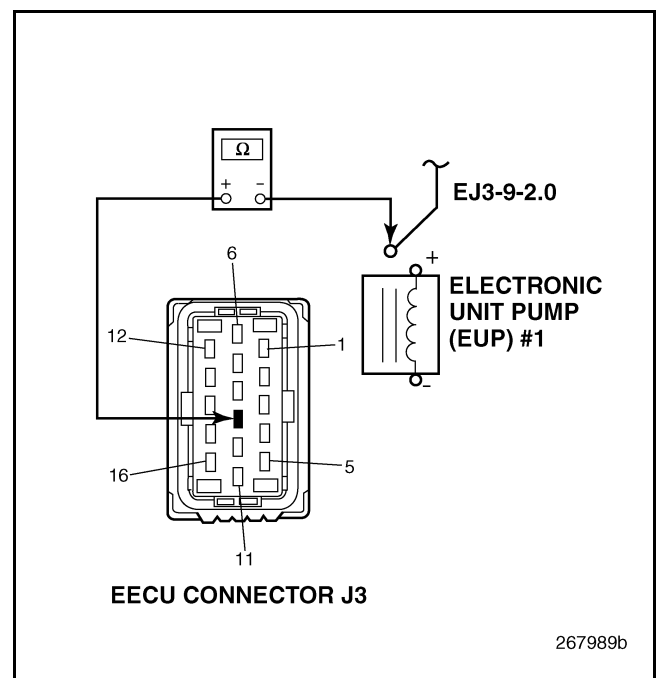

Figure 750
4. Check for continuity between EECU harness connector J3 pin 9 and circuit EJ3-9-2.0 at EUP Solenoid 1 (see Figure 750).